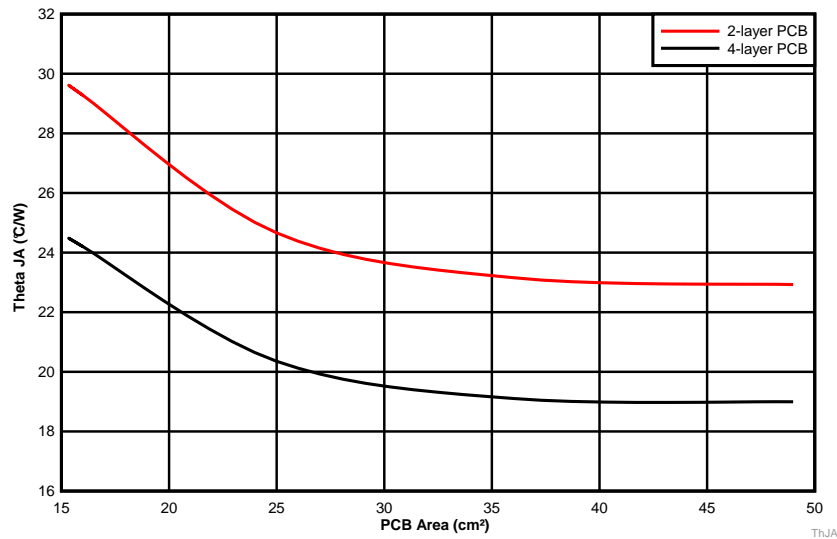

Figure 37. θ_{JA} vs PCB Area
The amount of PCB copper effects the thermal performance of the device. Figure 37 shows the effects of copper area on the junction-to-ambient thermal resistance ($R_{\theta JA}$) of the LMZM33602. The junction-to-ambient thermal resistance is plotted for a 2-layer PCB and a 4-layer PCB with PCB area from 16 cm² to 49 cm².
3. Reference Figure 37 to determine the minimum required PCB area for the application conditions.